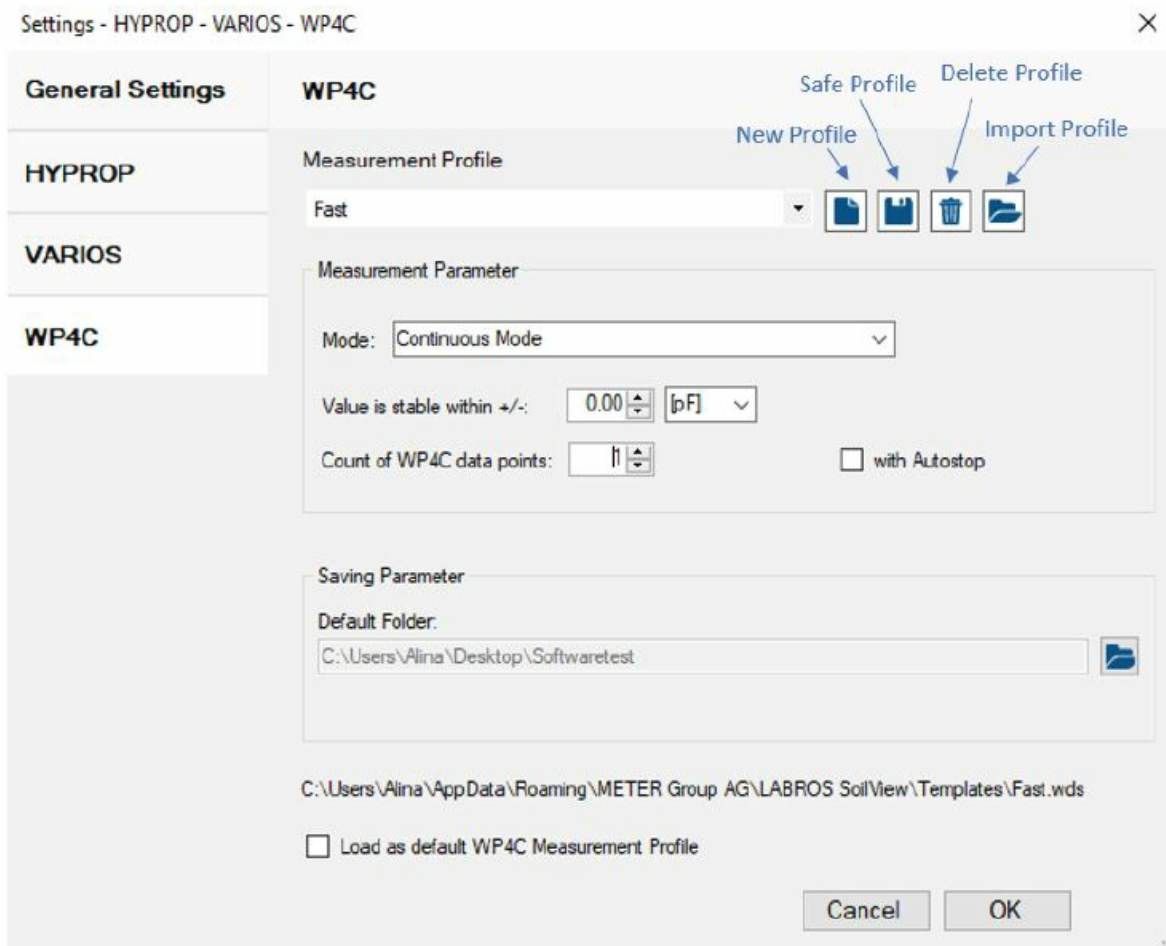

Figure 3 Create Template
To create an owner profile use the four buttons described in Figure 3. As a measurement parameter, the Measurement mode is set using the drop-down menu. Using Continuous mode, the count of WP4C data points may be selected as well as the tolerance. If the count of the measurement cycle is e.g. set to three and the tolerance is set to 0.2 pF, the software verifies if the last three recorded data points are within the tolerance of ± 0.2 pF. Select the Autostop checkbox to stop the measurements automatically.
3. Select one of the default profiles depending on the required measurement mode, or create an owner profile in the Settings menu (Figure 3). For more information about measurement modes, refer to the WP4C User Manual.